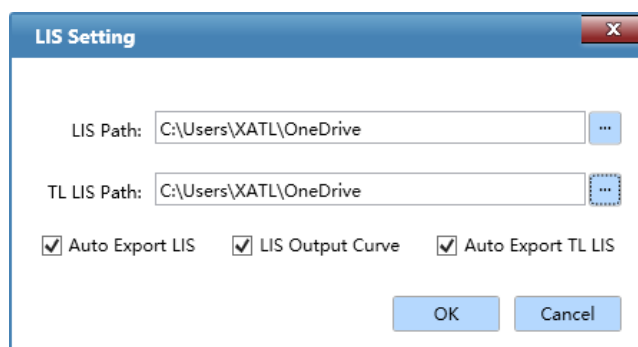

Figure D-3.9. LIS Setting
2. **LIS Setting:** Click **LIS Setting** option in the **Option** submenu to set the LIS path and TL LIS path, as shown in figure D-3.9. Admin can check the check box to make sure if the auto export LIS, LIS Output Curve and Auto Export TL LIS are needed or not.